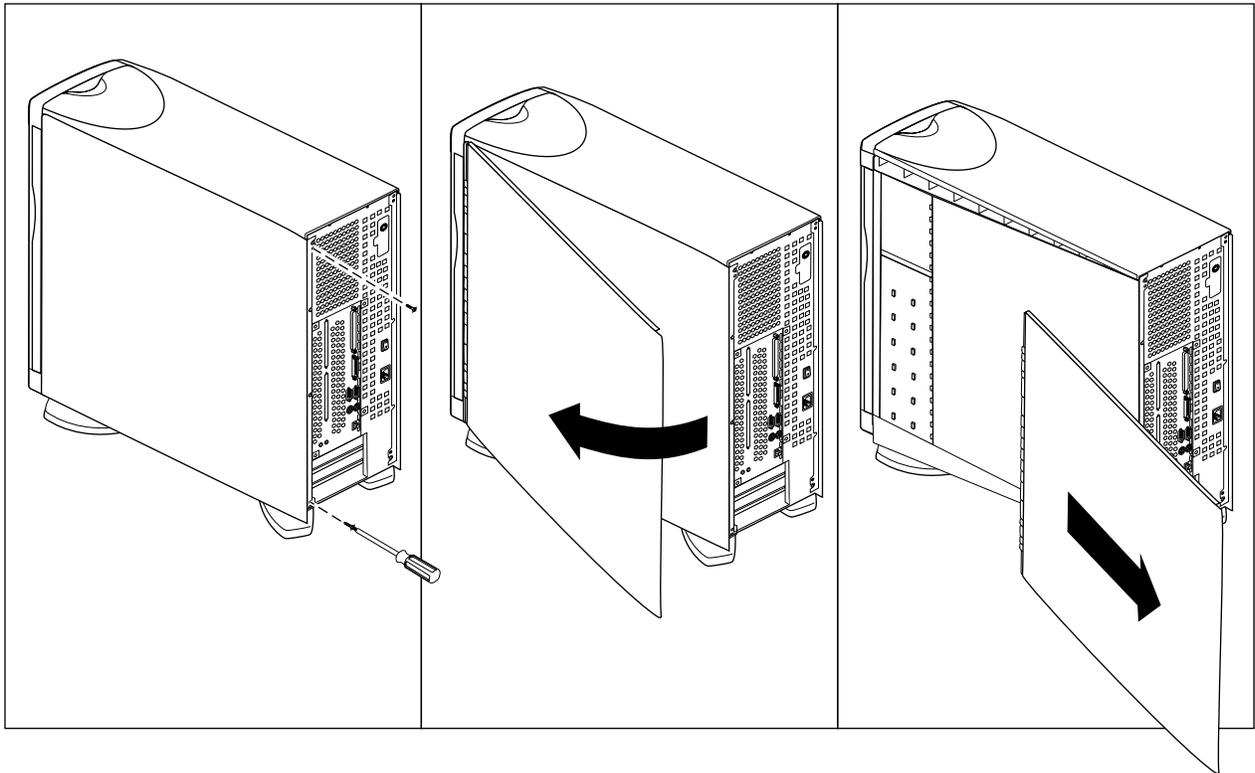

Figure 1-5 Removing the System Cover
1. Using a #2 Phillips screwdriver, remove the two screws that secure the system cover to the chassis. See Figure 1-5.
3. Slide the system cover back and off the system, as shown in Figure 1-5.